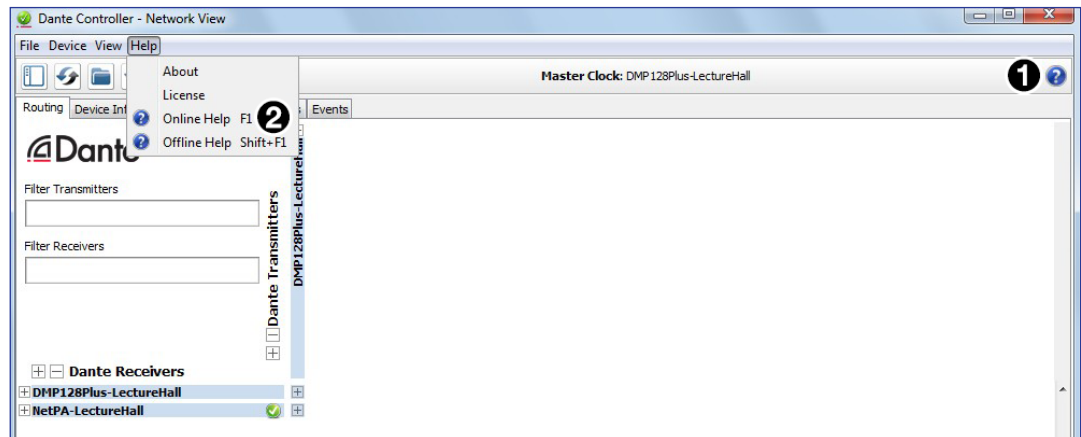

Figure 29. Accessing the Dante Help File
- Click the **Help** icon in the upper-right corner of the Dante screen (see figure 29, **1**, below).